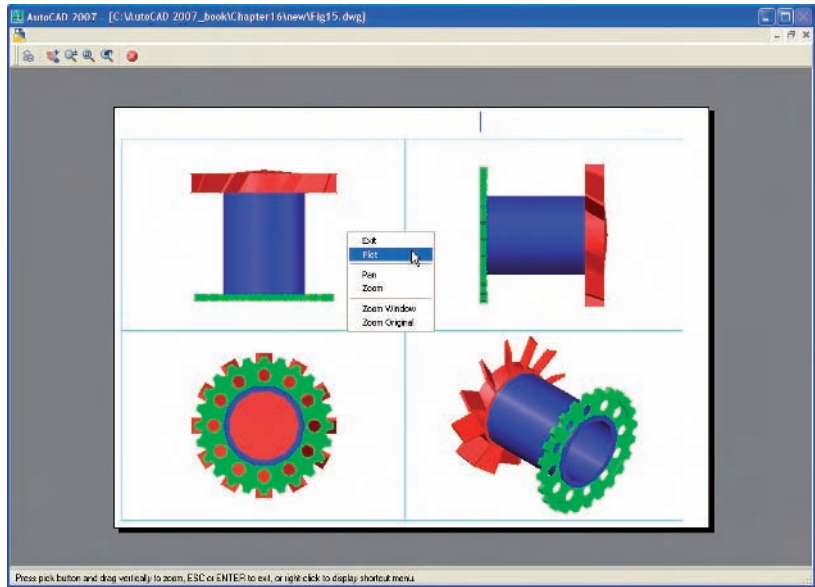
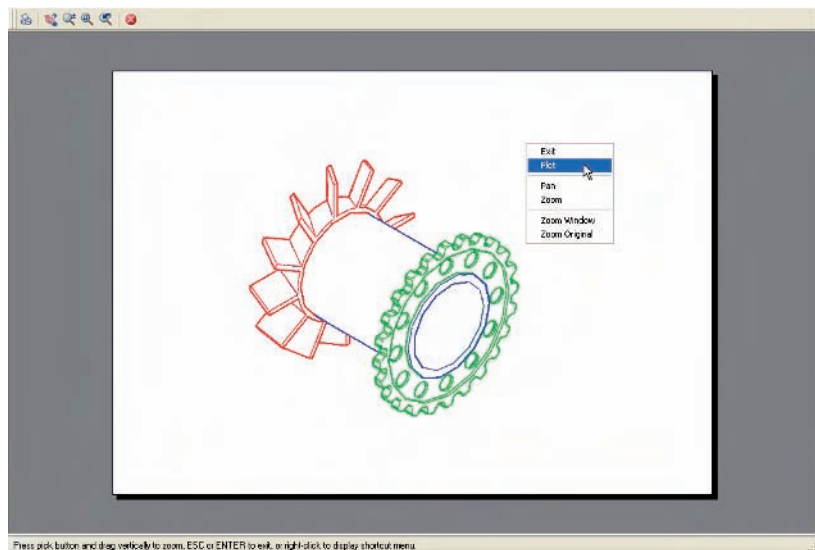

Fig. 16.29 Second example **Multiple view copy** – the print **Preview**
Fig. 16.30 An example of a **Hidden Style** plot **Preview**
Second example – multiple view copy (Fig. 16.29)
3. *Click* the **Layout** button in the status bar. The drawing appears in **Pspace**. A view of the 3D model appears within a cyan coloured viewport (Fig. 16.29).
6. If the preview is satisfactory (Fig. 16.29), *right-click* and from the *right-click* menu click **Plot**. The drawing plots to produce the required four-view port hardcopy.
When working in AutoCAD 2007, several different forms of hardcopy can be printed or plotted determined by the settings in the **3D Orbit/Visual Styles** settings (Fig. 16.29). As an example a single view plot preview of the same 3D model is shown in the **Hidden** shading form (Fig. 16.30).